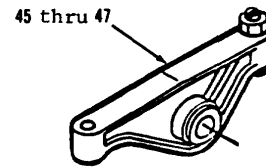

Figure 3-57.
29. Remove items 45 thru 47 as an assembly (Figure 3-57).